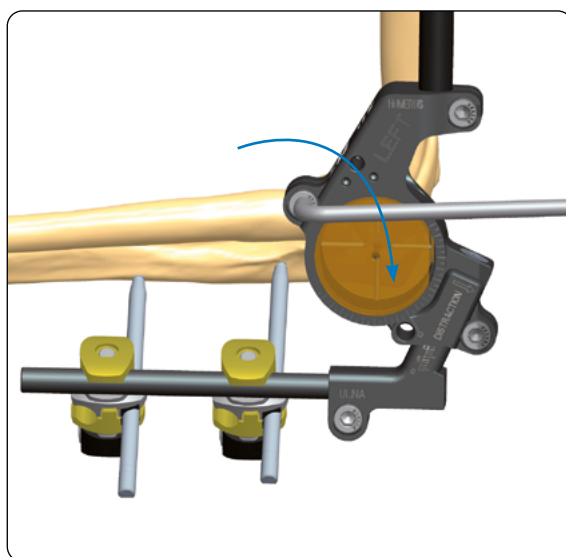

Fig. 12
10) While predrilling the second screw hole – again using the drill guide – the clamp must be fully closed. Depending on the soft tissue conditions, the Elbow Hinge Unit can be locked for a short post-operative time **(Fig. 12)** or can be left open for immediate mobilization.